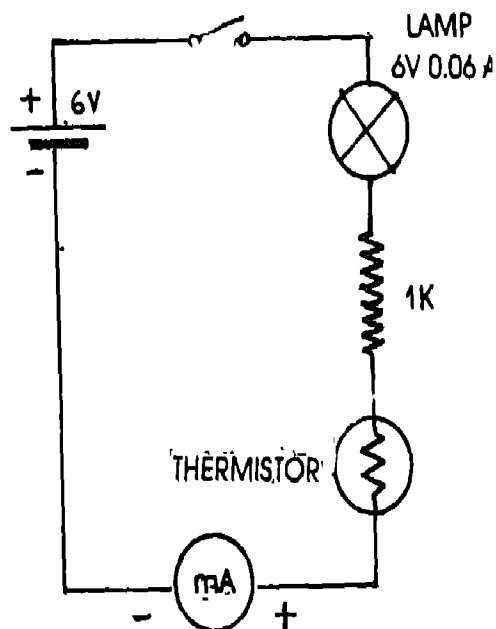

Fig. 13.2
1. Make the connections as shown in the Figure 13.2.
2. In the above circuit of Fig. 13.2, remove the lamp and close the circuit. Then connect the lamp in parallel with the thermistor and see what happens, when the thermistor is warmed.